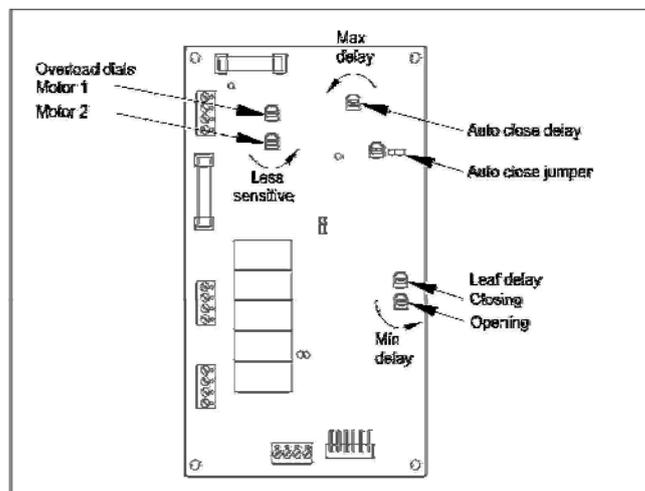

Figure 9: Settings.
The operator control board is supplied with a “JUMPER” installed on a three-pin block. This allows the gate to automatically close after a specific period. This period is adjustable. (Refer to figure 9).
The overloads (See figure 9) are preset to maximum sensitivity, i.e. slight pressure will cause the operator to STOP if it is opening or STOP & OPEN if it is closing.
Connections for an electric lock/latch (EL) are provided on the circuit board. (See Figure 9) This connection block will supply 12 Volts to energise the lock at the beginning of the Opening and Closing cycles.
Wires from the PE should be attached to the appropriate connection block. (See figure 9)